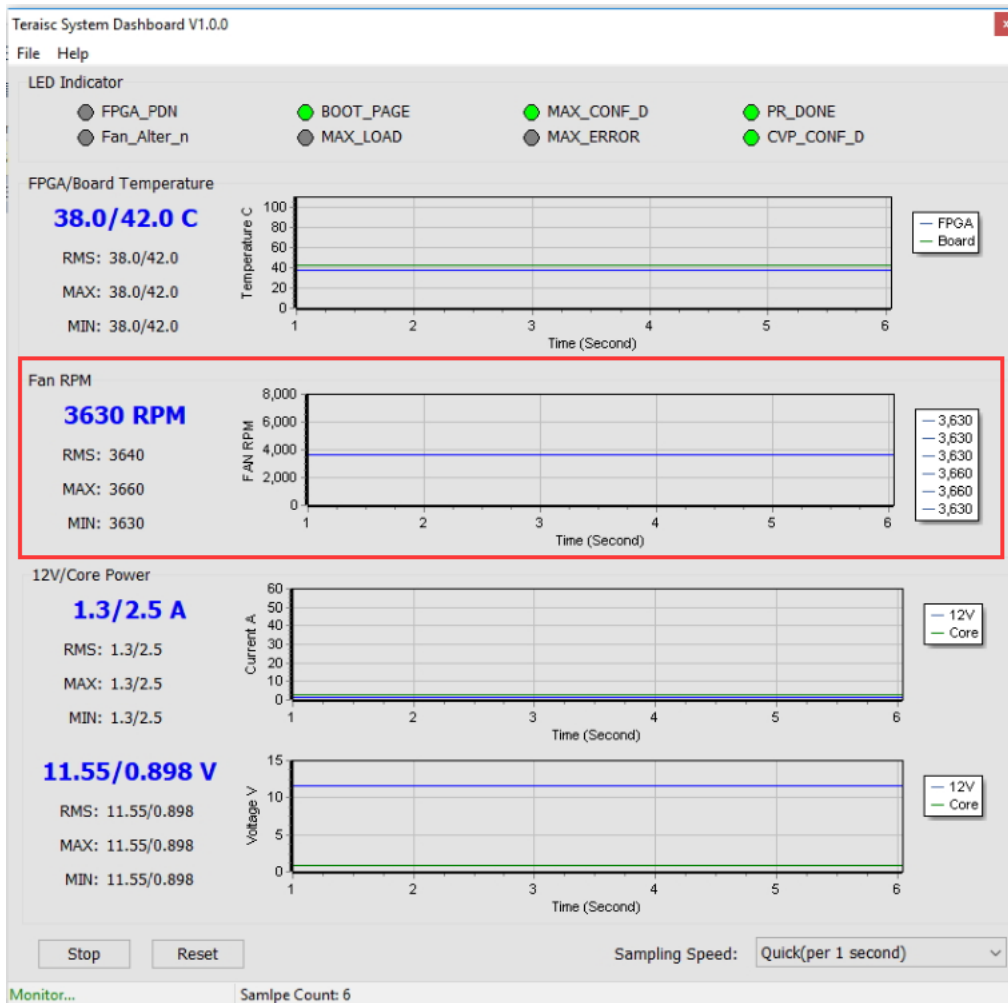

Figure 8-20 FAN RPM section
- **Fan RPM:** It displays the real-time speed of the fan on the TR10a-LPQ board, as shown in Figure 8-20.